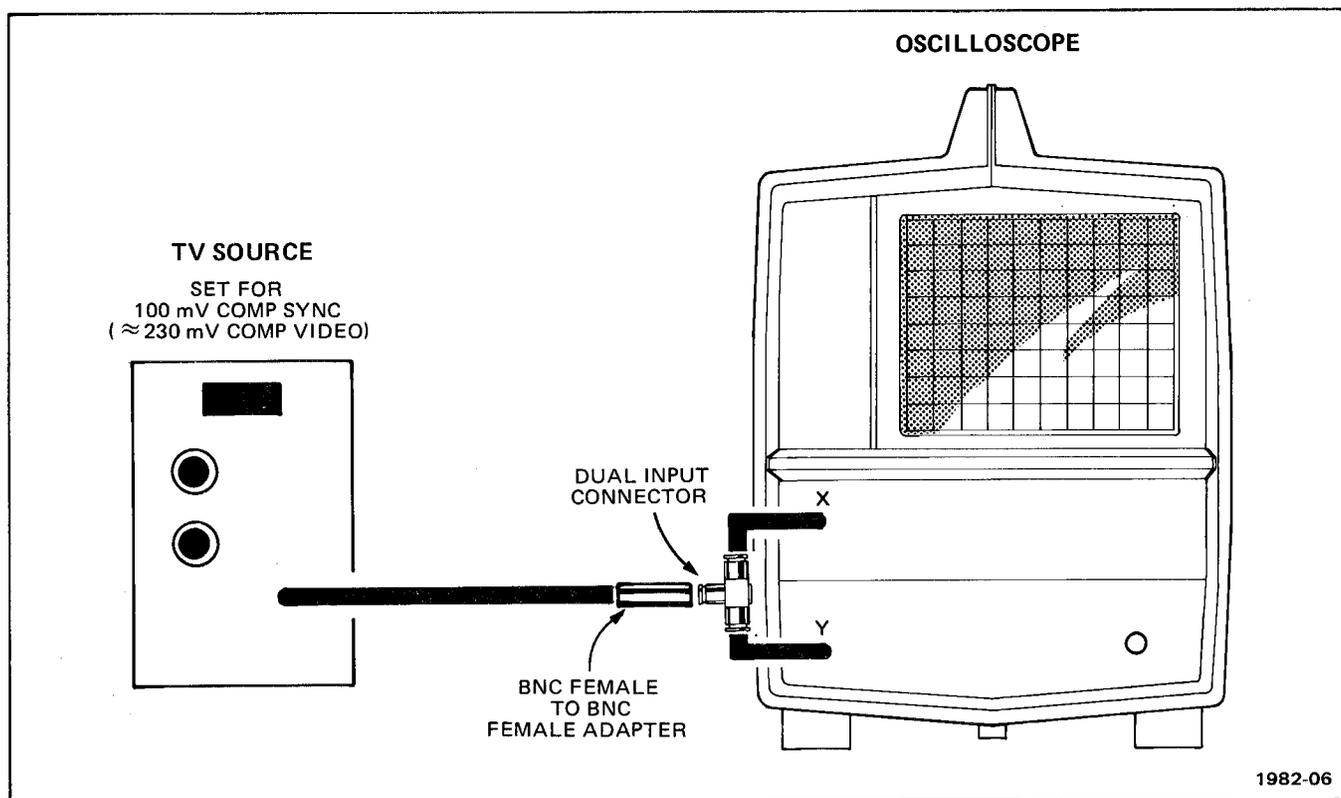

Fig. 3-8. TV trigger check test setup.
a. Connect test setup as shown in Fig. 3-8.